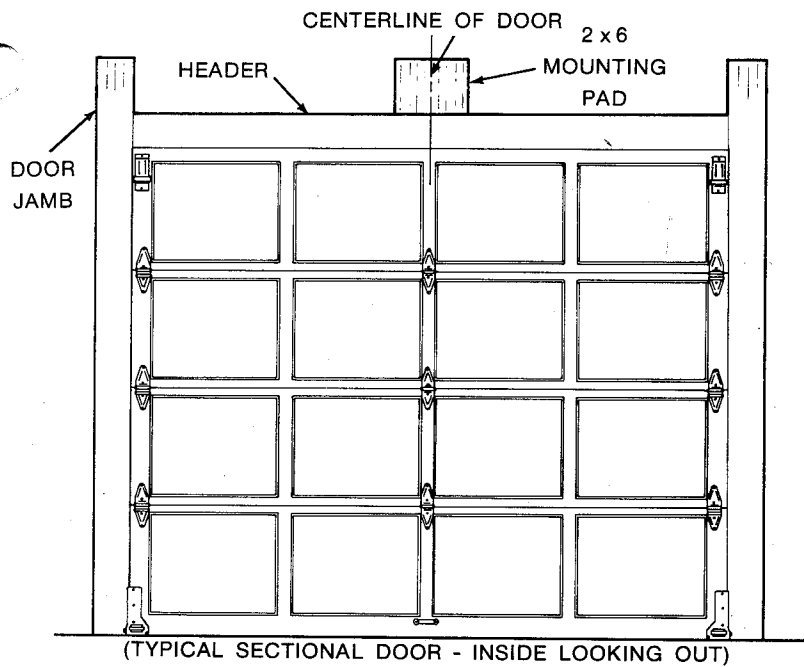

FIGURE 1.
- 1.) Measure width of door to determine center. Using a pencil, mark centerline on the door header above the door. (See Figure 1.)